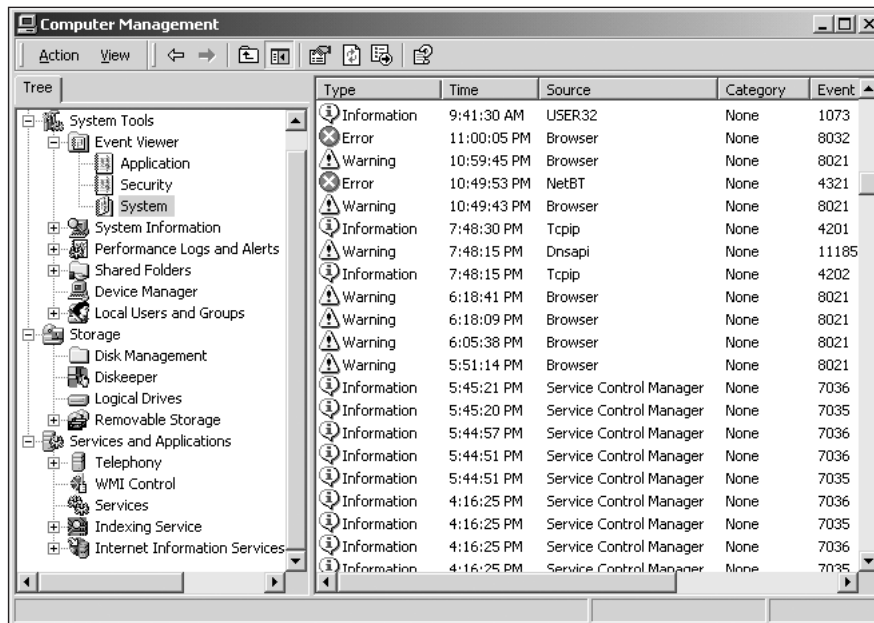

Figure 12-11 Remotely administering a Windows 2000 computer
5. The Computer Management console displays management nodes for the remote computer (see Figure 12-11) and functions for the most part as if you were locally seated at the server. Some features are disabled; for example, you can view Device Manager hardware settings, but you cannot change them unless seated locally or running over a Terminal Services session.